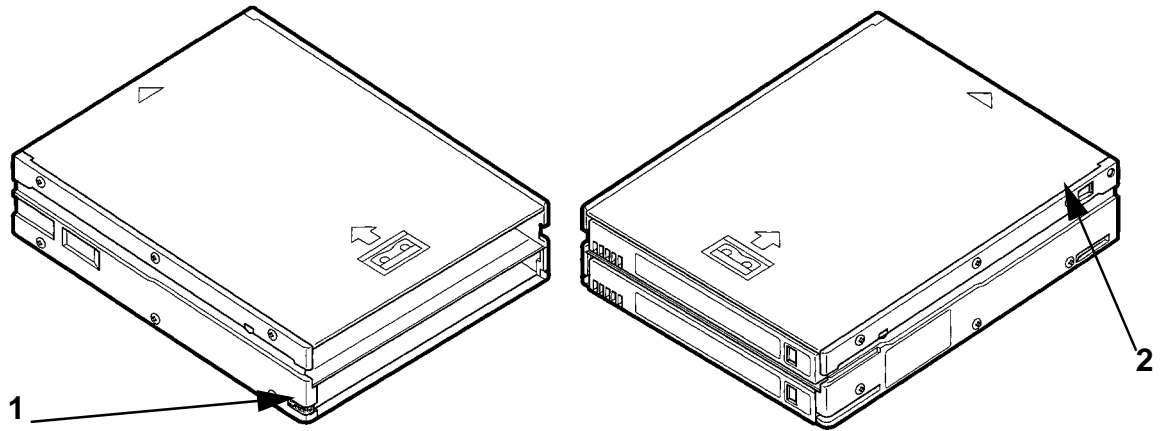

Figure 4-4. Sony AIT tape magazine
Figure 4-4 shows the tape release button and write protect tab on the Sony AIT tape magazine.
2. Press the release button on the lower left side of the magazine. See Figure 4-4. The first tape slides out and the second tape slides into the first position. The third tape drops to the bottom slot.